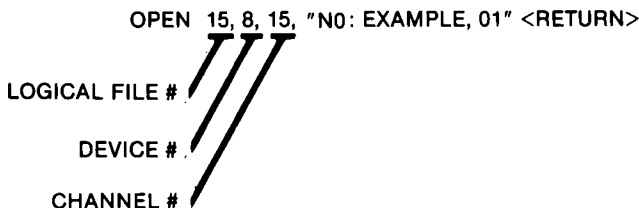
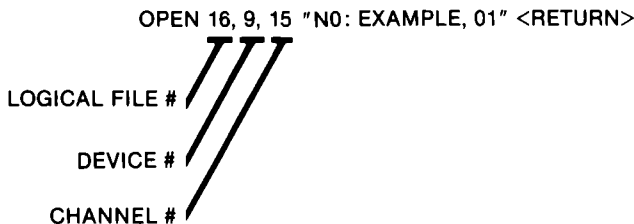

Fig. 1-10. Format command, drive A.
Fig. 1-11. Format command, drive B.
To illustrate the difference in commands required for two or more disk drives, assume that VIC-1541(A) and VIC-1541(B) each contain a blank floppy disk that is to be formatted. To format the floppy disk in drive (A) the command shown in Fig. 1-10 could be used.
To format the floppy disk in drive (B), the command shown in Fig. 1-11 could be used.
Notice that the device number and the logical file number change. The device number in Fig. 1-11 changes to 9 in order to address
VIC-1541(B). The logical file number in this figure has also changed because logical file #15 is already opened and assigned to device #8 in Fig. 1-10. If logical file #15 were closed between Figs. 1-10 and 1-11, then the command in Fig. 1-11 could have used logical file #15 instead of logical file #16.